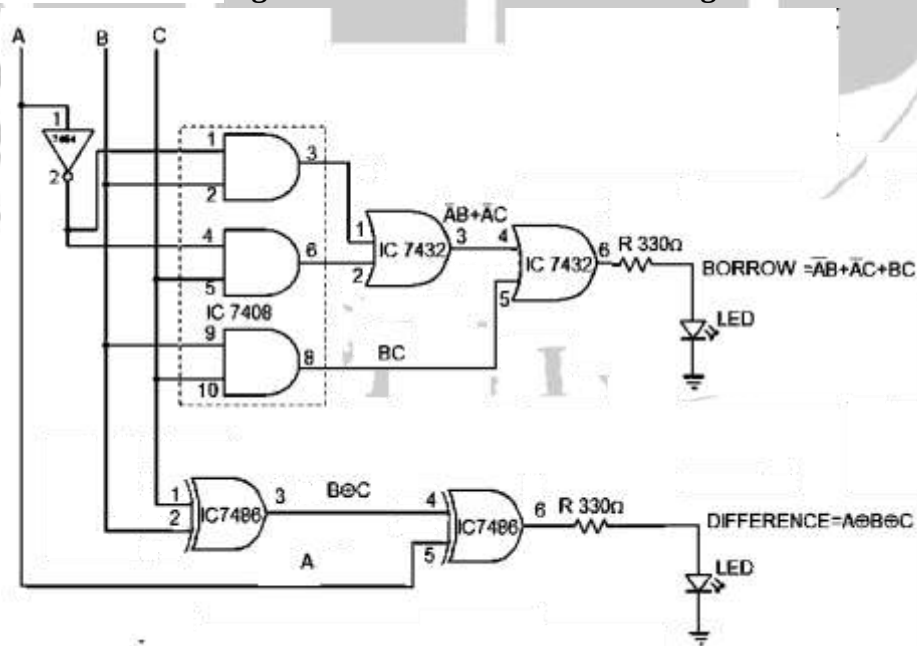

Fig 7.4: Full subtractor Circuit Diagram
7. Repeat the procedure for figure.7.4.